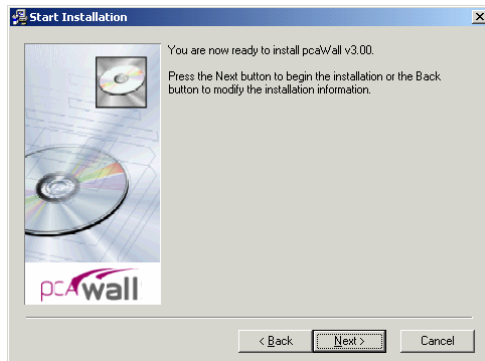

Figure 1-7. Start Installation
9. After all the previous steps are completed, press the NEXT button as shown in Figure 1-7 to start the installation.